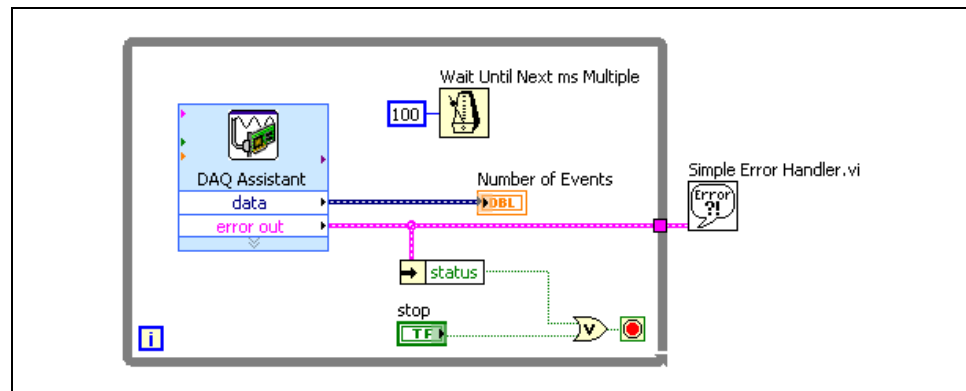

Figure 8-10. Count Events VI block diagram
5. Finish building the block diagram. Use Figure 8-10 as a guide to assist you.